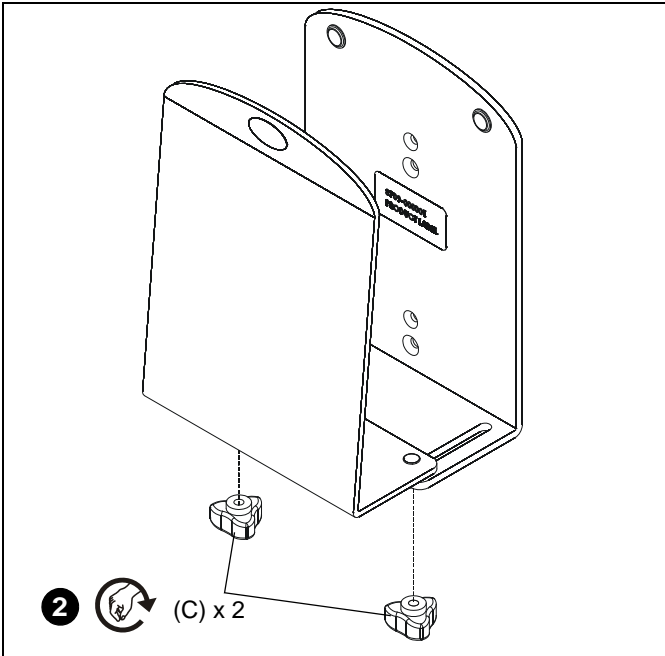

Figure 10
1. Set CPU Support Bracket (B) on top of CPU Wall Mount Plate (A). (See Figure 10)
2. Use knobs (C) to secure CPU Support Bracket (B) to CPU Wall Mount Plate (A). (See Figure 10)